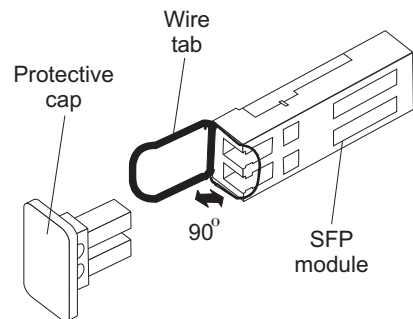

Figure 29. Unlocking the SFP module latch - wire variety
- For SFP modules that contain wire tabs, unlock the SFP module latch by pulling the wire latch outward 90°, as shown in Figure 29.